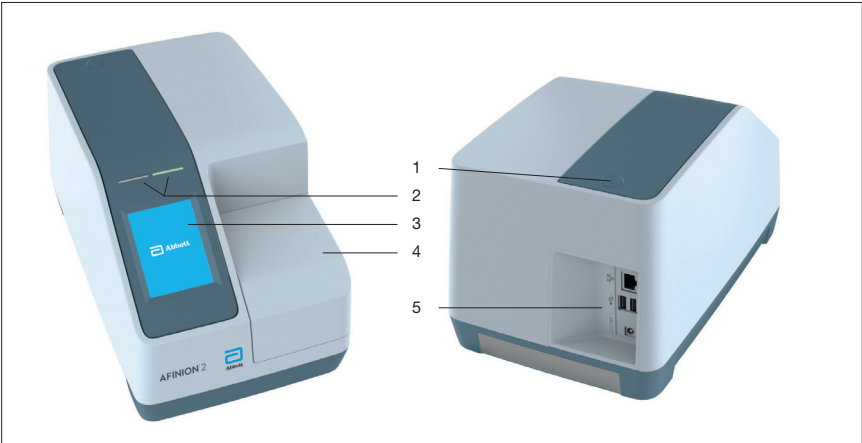

Figure 1
Figure 1 shows the main exterior parts of the Afinion 2 Analyzer.
- 1  Power on the analyzer by pressing the ON/OFF button (Figure 1). An automatic start-up procedure will be initiated. Please wait. Do not open the lid manually.
Switch off the analyzer by pressing the ON/OFF button (Figure 1). The analyzer should be powered off after the end of a working day.